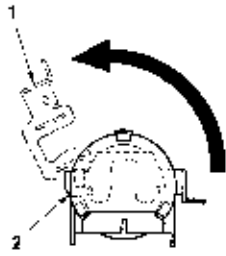

Figure 3.3.1
- (1) Open the access over.
- (2) Pull up and rotate the head clamp 1 to unclamp the printhead 2 as shown fig. 3.3.1 (see below).
- (3) Disconnect the printhead 2 from PC connector 3.
- (4) To install, follow the removal steps in the reverse order.